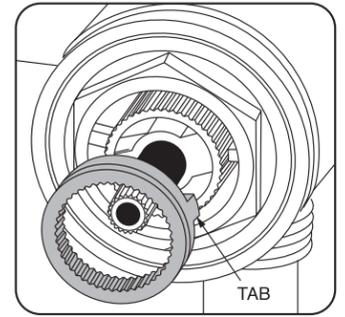

Figure 4
3. Note the stop tab on the bottom of the ring (see Figure 4). The further it is reoriented in a counter-clockwise direction, the shorter the travel allowed (and thus, the lower the temperature output possible). Important: before re-orienting the ring, be sure the stem is in the full "OFF" position.